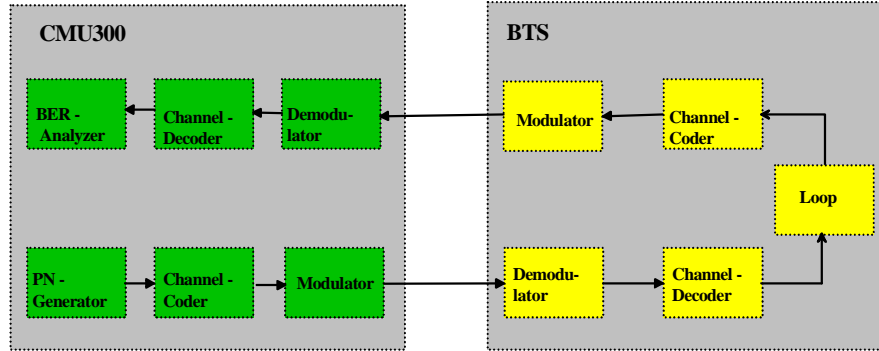

Fig. 20 Test set-up
4. The BTS closes the loop after the channel decoder and before the channel coder (Fig. 20). The received data bits are coded and modulated with the same coding and puncturing scheme and sent back to the CMU. The loop back is done on a block by block basis. The coding and puncturing scheme used is set with a command on the BTS test interface. Please note that MCS7, MCS8, and MCS9 carry 2 RLC/MAC frames which are coded separately.